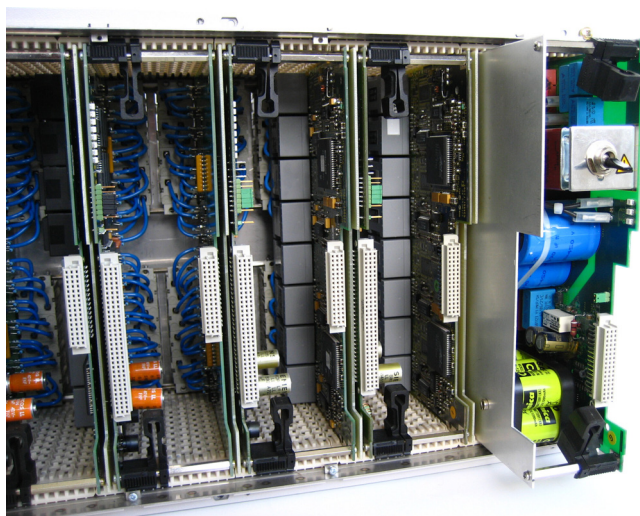

Figure 1-16 Pulling the power supply module out
- ❑ Pull the power supply module forward (see Figure 1-16).